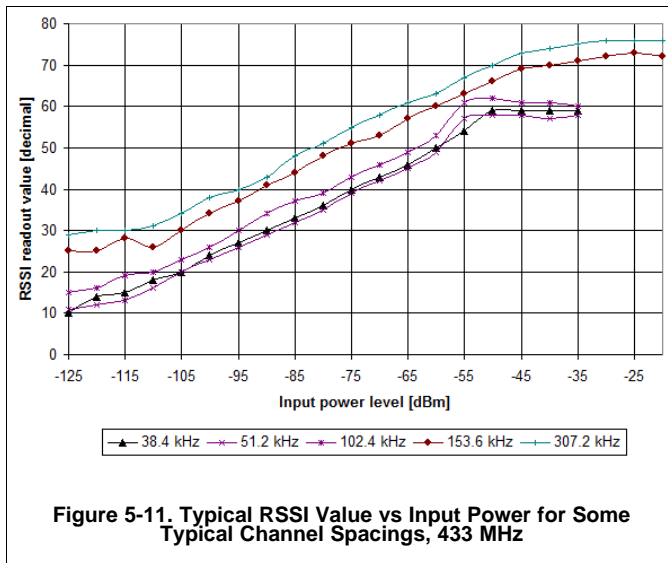
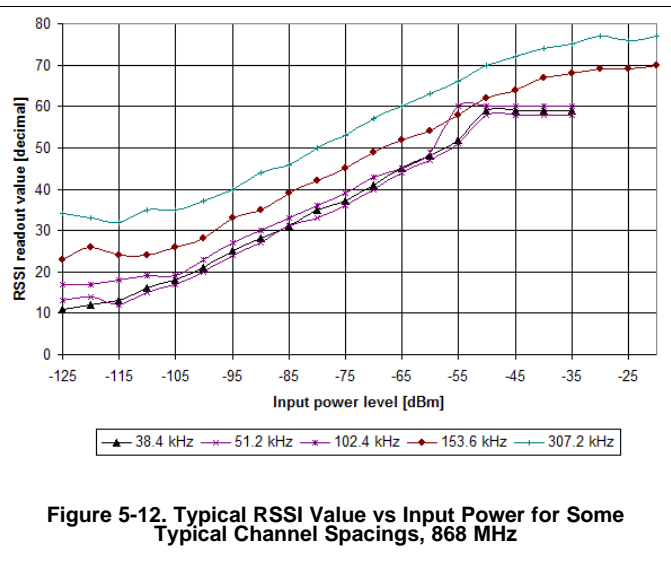

Figure 5-11. Typical RSSI Value vs Input Power for Some Typical Channel Spacings, 433 MHz
Figure 5-12. Typical RSSI Value vs Input Power for Some Typical Channel Spacings, 868 MHz
The RSSI\_Offset depends on the channel filter bandwidth used due to different VGA settings. Figure 5-11 and Figure 5-12 show typical plots of RSSI reading as a function of input power for different channel spacings. See Section 5.9.5 for a list of channel filter bandwidths corresponding to the various channel spacings. Refer to *AN030 CC1020/1021 Received Signal Strength Indicator* (SWRA062) for further details.
The method shown in Equation 21 can be used to calculate the power (P) in dBm from the RSSI readout values in Figure 5-11 and Figure 5-12.
RSSI\_ref is the RSSI readout value taken from Figure 5-11 or Figure 5-12 for an input power level of P\_ref.
The analog filter has a finite dynamic range and is the reason why the RSSI reading is saturated at lower channel spacings. Higher channel spacing is typically used for high frequency deviation and data rates. The analog filter bandwidth is about 160 kHz and is bypassed for high frequency deviation and data rates and is the reason why the RSSI reading is not saturated for 200 kHz and 500 kHz channel spacing in Figure 5-11 and Figure 5-12.